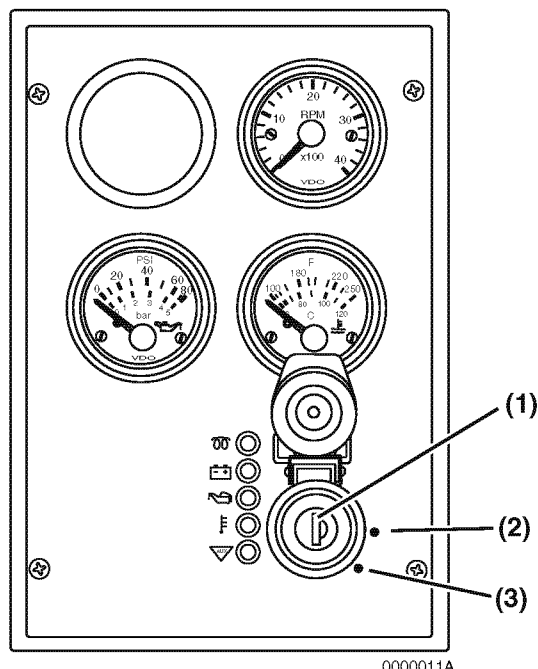
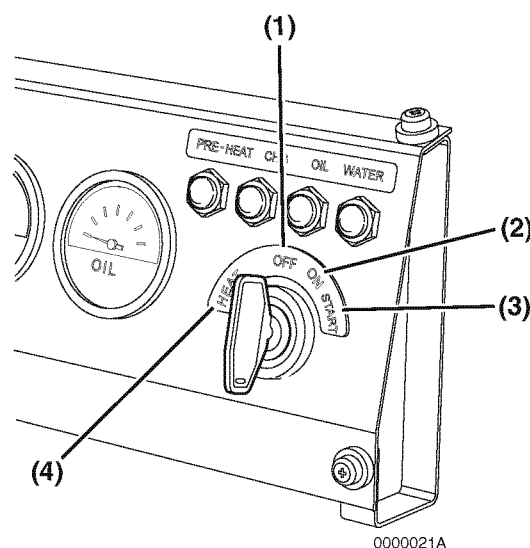

Figure 12
Figure 13
The key switch for the operator's console illustrated in **Figure 12** has three positions - OFF, ON and START.
OFF (key straight up and down) (**Figure 12, (1)**) and (**Figure 13, (1)**) - When you turn the key to this position the engine shuts down. Electric current to the gauges and indicators is shut off. You can insert and remove the key in this position.
ON (**Figure 12, (2)**) and (**Figure 13, (2)**) - This is the position the key will be in when the engine is running. When the engine is not running, use this position to energize the gauges, indicators, electric fuel pump and auxiliary devices.
START (**Figure 12, (3)**) and (**Figure 13, (3)**) - Turn the key to this position to start the engine. As soon as the engine starts, release the key and it will automatically return to the ON position. Some key switches may be equipped with a feature that prevents you from turning the key to the START position while the engine is running. When operating a key switch with this feature, you cannot turn the key to the START position without first returning the key to the OFF position.
The key switch for the operator's console illustrated in **Figure 13** has four positions - OFF, ON, START, and HEAT.
HEAT (Figure 13, (4)) - You must turn the key to the HEAT position to activate the inlet air heater. The indicator will flash for several seconds when you turn the key to HEAT. You can turn the key to START when the indicator goes out.